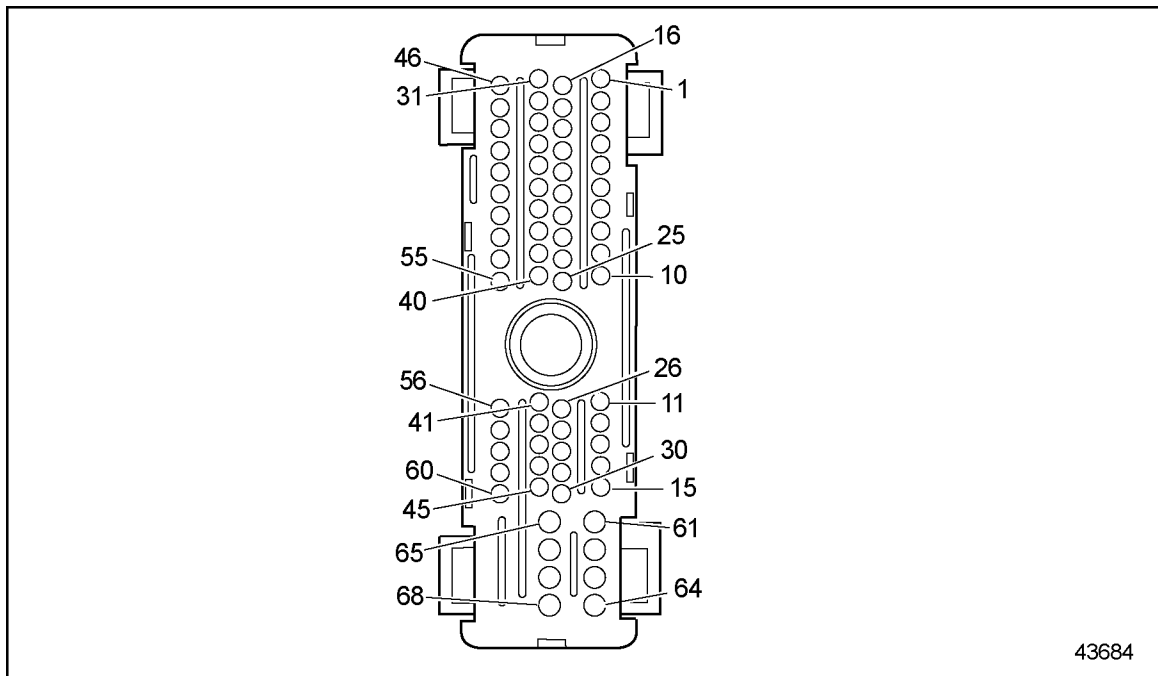

Figure 29-3 ECM/ECU Engine Harness Connector
3. Measure resistance between sockets E-9 and E-14 on the engine harness connector. See Figure 29-3.
Check terminals at the ECM/ECU harness connector (both ECM/ECU and harness side) for bent, corroded, and unseated pins or sockets. See Figure 29-3.